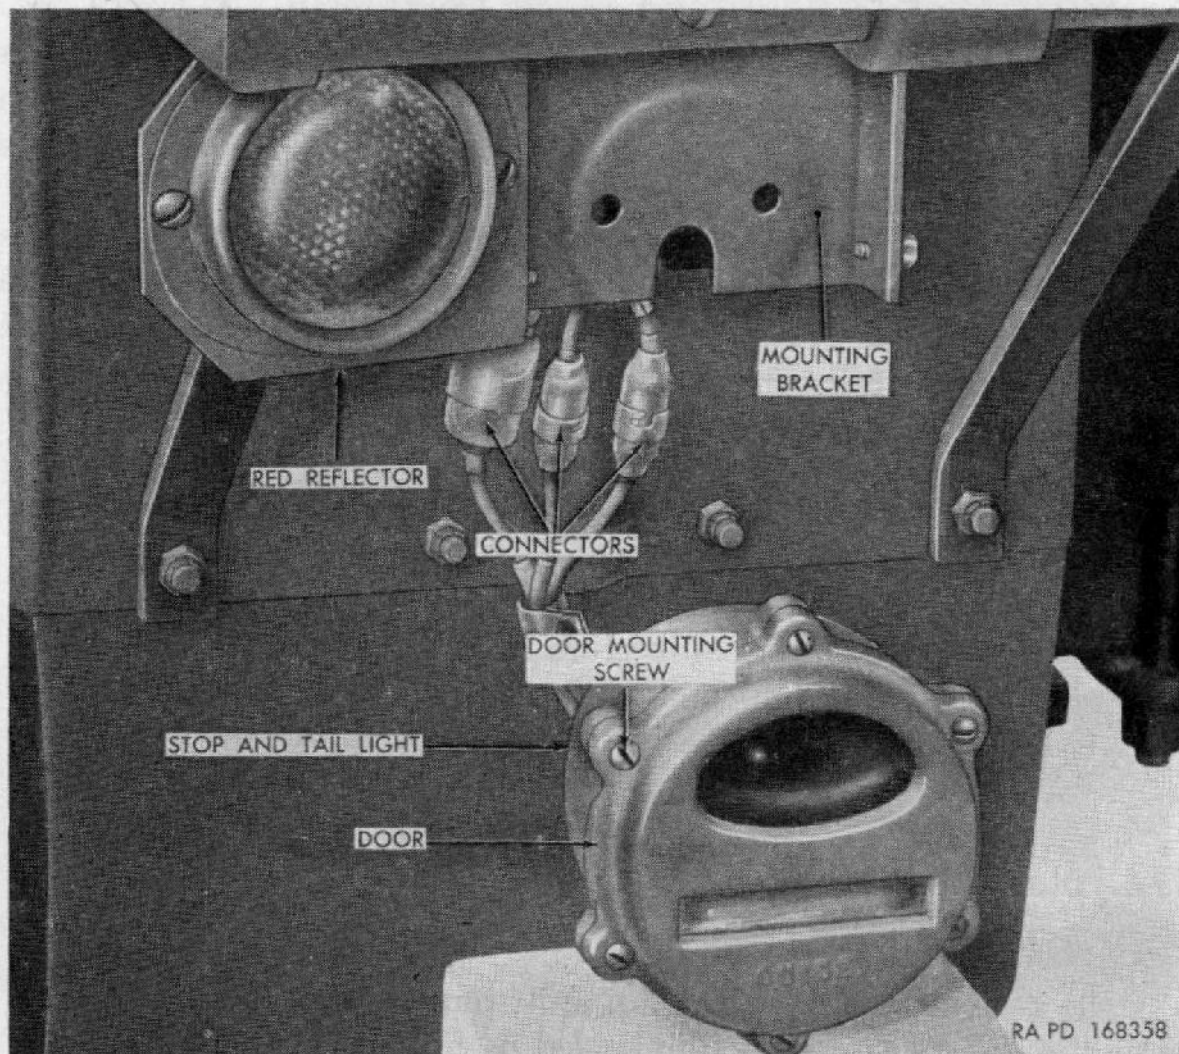

Figure 125. Stop and tail lights.
- (5) *Stop and tail lights* (fig. 125). The stop and tail lights consist of two waterproof units—right-hand and left-hand as-
(fig. 125)